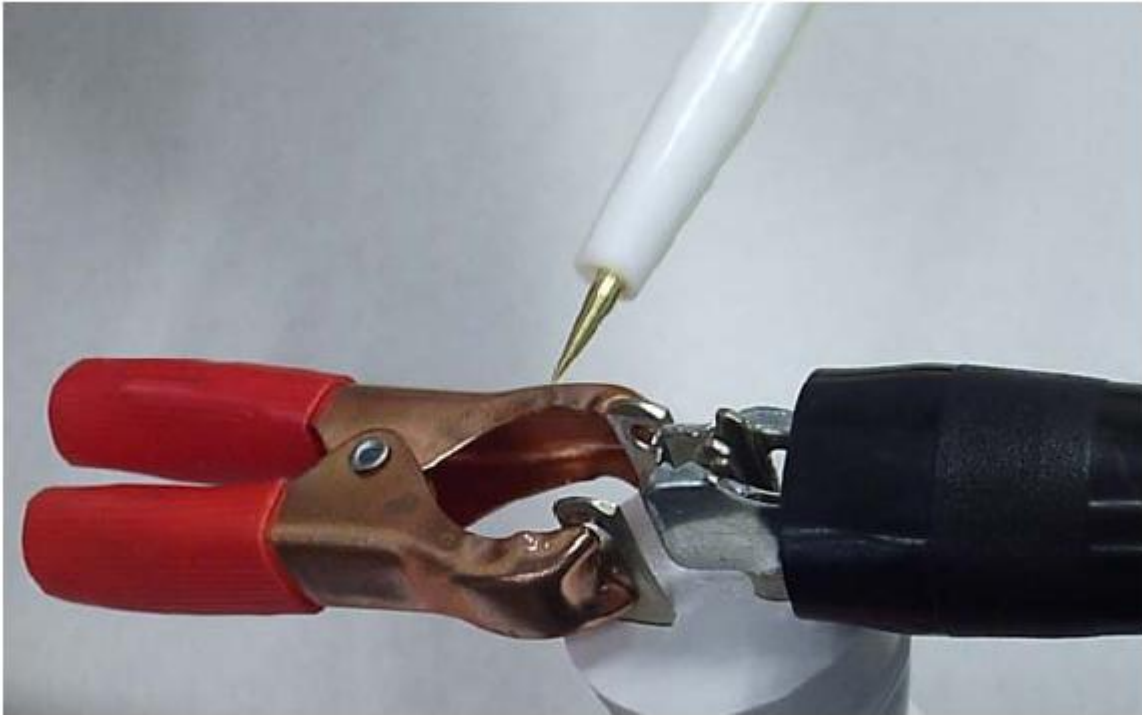

Figure 3 - Attach the Ground Lead to the Ground Pin
6. **Touch** the HIGH VOLTAGE probe (red, pen-like attachment) to the shorted live and neutral terminals, **ensuring *not* to touch the Earth Ground pin.** (see figure 3)